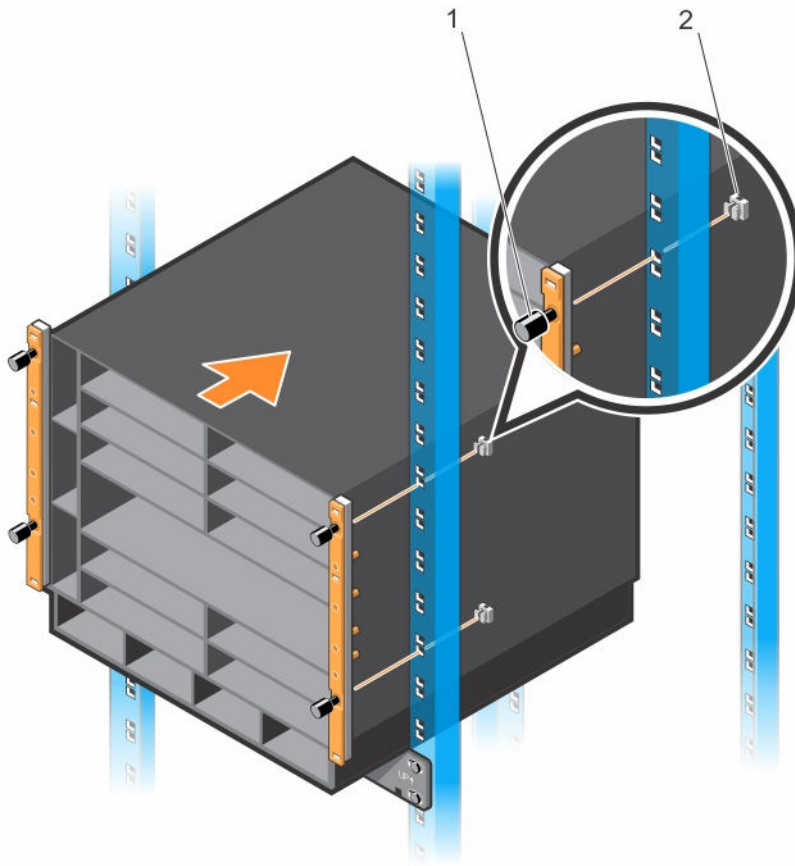

Figure 8. Aligning Rack-Mount Holes with 4-Post Rack Holes
5. Use two people or an equipment lift to align the chassis rack-mount holes with the cage nuts in the front posts (items 1 and 2 in Figure 8). Rest the chassis on top of the rack bar (or rack tray or ReadyRails, if installed).